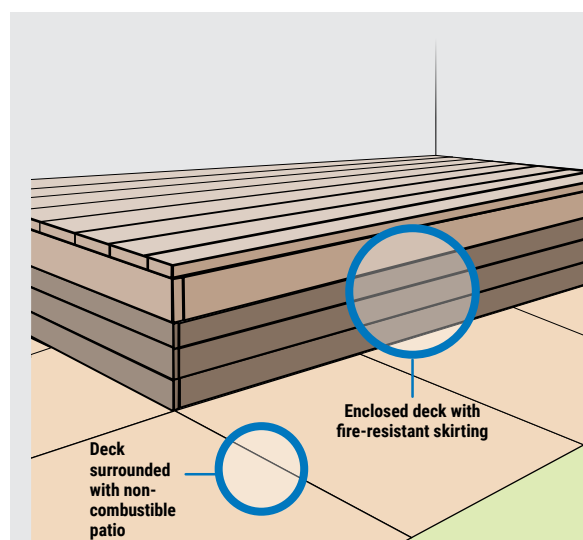

Figure 15: Enclosed deck isolated by patio
- Make sure there is a way to access the spaces under the deck so you can clear fine combustible debris that may fall between decking boards and accumulate (see figure 15).